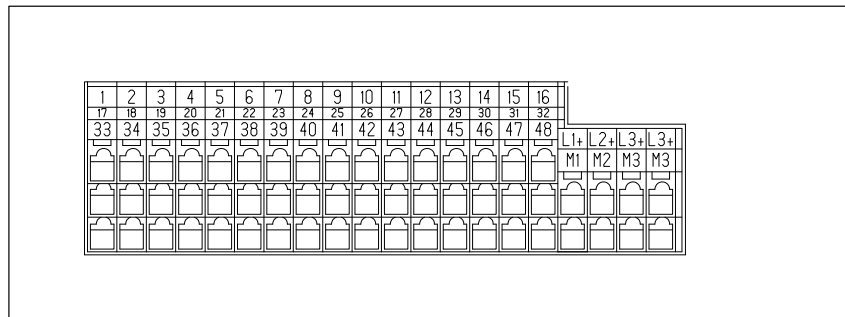

Figure 7-6 Terminal Numbering: Terminal Block TB3/DC (Spring-Latch Terminal)
**Terminal Numbering** Figure 7-6 is an enlargement of the terminal numbering printed on the TB3/DC (spring-latch terminal).